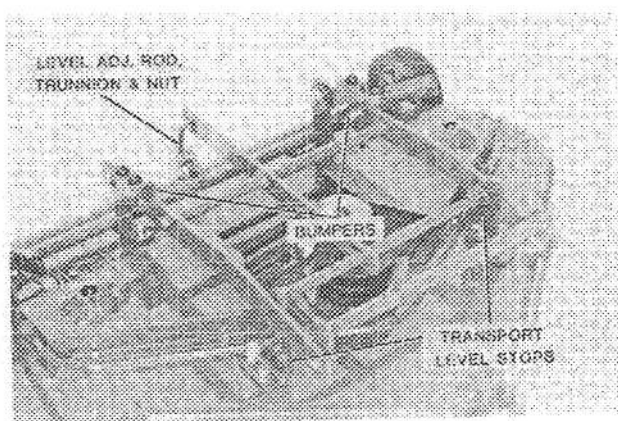

FIG. 9. 36 in. (92 cm) Mower Adjustments
Adjust until the deck is level from front to back with the adjustment nut on the level adjustment rod (Figs. 9, 10, 11), then back the nut off one (1) complete turn which will lower the front of the mower slightly. **Note:** The trunnion must always be installed in the hole nearest to the gage wheel support shaft.